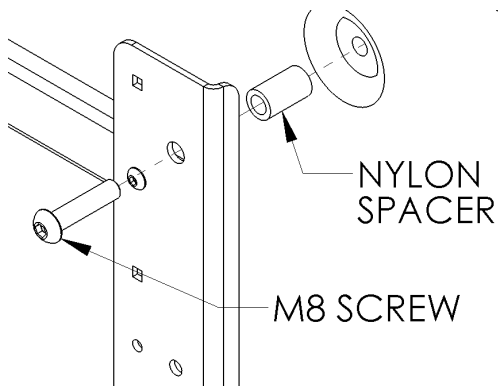
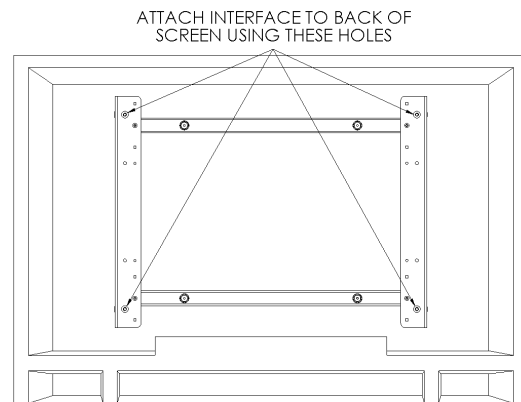

Figure 8
Figure 9
- Place Nylon spacers over mounting holes on back of screen. Attach mounting brackets to display using M8 screws (see Figures 8 & Figure 9). If needed add both sets of spacers and use the set of longer bolts to attain required clearance.